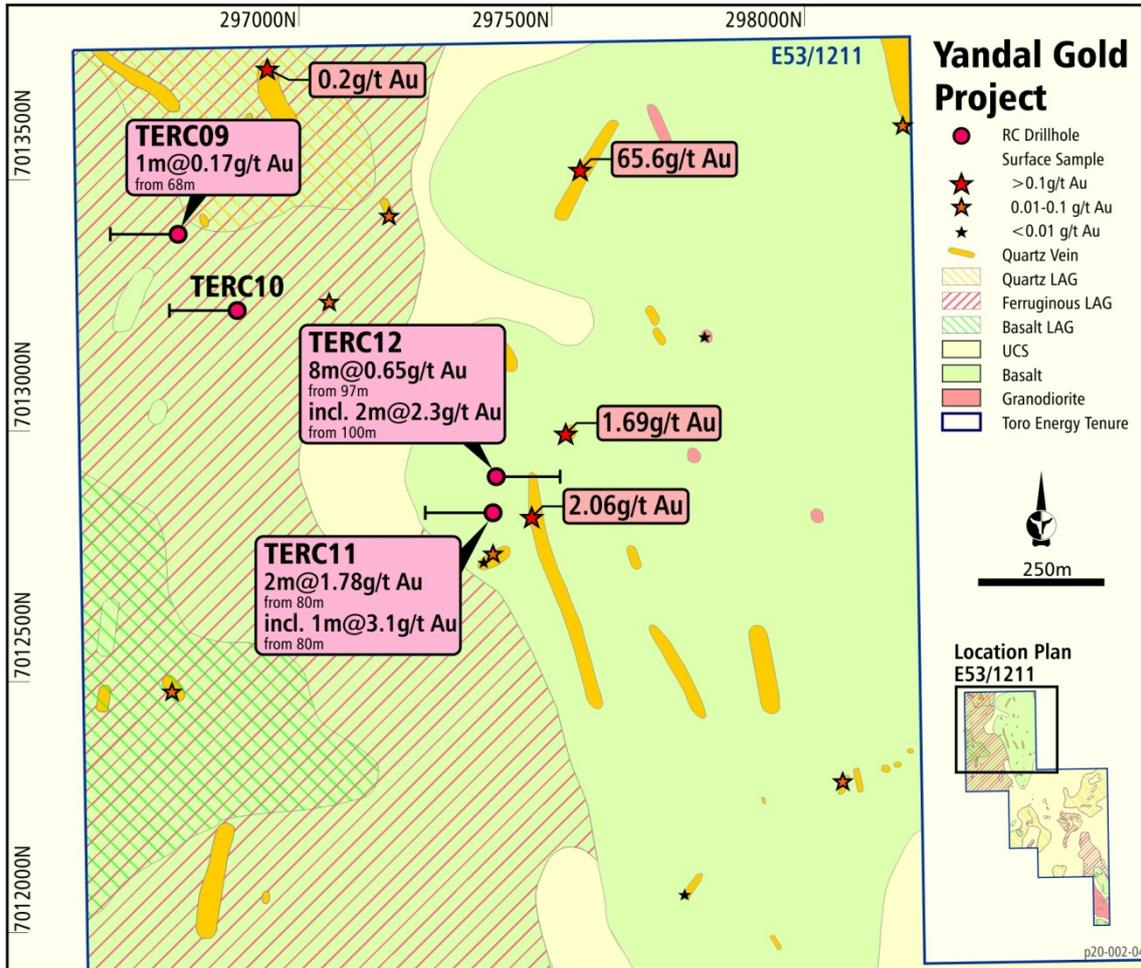

Figure 3: Surface geology-regolith map of E53/1211, the exploration tenement that incorporates the Golden Ways Target Area in its north.
A summary of the assay results for gold along with their corresponding sample locations at Golden Ways and the larger area encompassed by the exploration licence is presented in **Figure 3**. A table of results with the grid reference location of each sample is presented in **Appendix 1**.
Figure 3 shows that Toro considers 13 of the 17 rock chip samples analysed to be anomalous for gold given the arbitrary nature of the sampling with four of these being especially significant: sample YGP_R09 grading 65.6g/t gold, sample YGP_R04 grading 2.06g/t gold, sample YGP_R05 grading 1.69g/t gold and sample YGP_R10 grading 0.2g/t gold.
Two of the most anomalous (in gold) rock chip samples were collected close to the reverse circulation (RC) drill holes TERC11 and TERC12, completed in October 2019 and the corresponding gold intersections announced in the ASX release of 27 February 2020. Sample YGP_R04 (2.06g/t gold) is from the large NNW trending quartz vein intersected by TERC12 at 97m downhole (**Figure 3**) and thus confirms that gold mineralisation is potentially continuous from the surface to at least 90-100mm vertical depth (assuming sub-vertical orientation of vein) in this vein set. This is important because the individual vein set is at least 500m long if restricted to what is outcropping at the surface.
Figure 4: Documented photo of surface rock chip sample YGP_R09 collected during geological mapping campaign in October 2019. Both pieces are from the same actual sample, just broken apart and both pieces were submitted to the lab as a single sample. Gold assay by Fire Assay of 65.6g/t – see Figure 3 for location and Appendix 1 for full table of results. See text for fur details.
The gold assay results from the rock chip samples and their distribution across the Golden Ways Target Area as presented in Figure 3 confirms that: